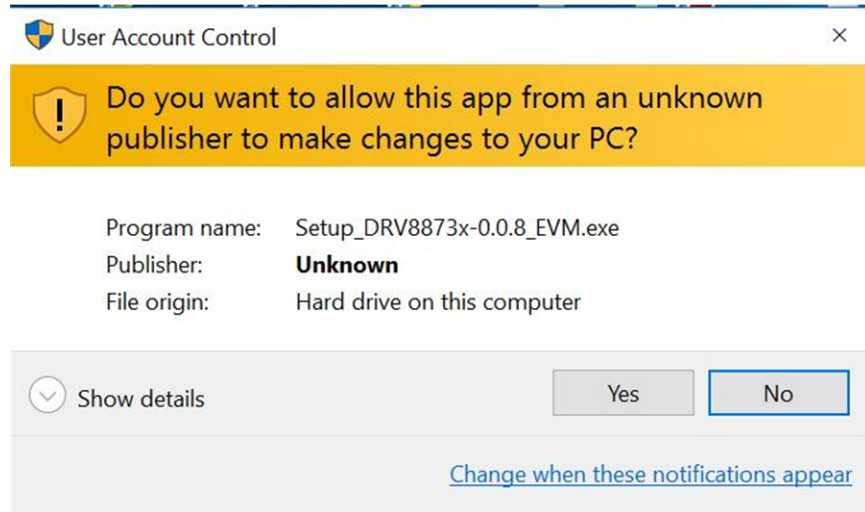

Figure 4. User Account Control
- Step 2. Click the Yes button in the *User Account Control Window* to continue (see Figure 4).